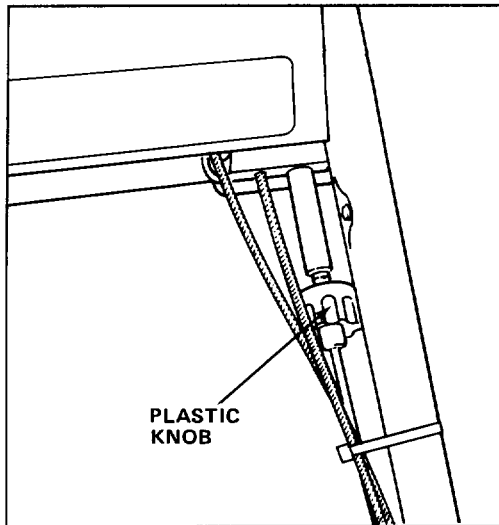

Figure 14
3. To adjust wheel drive cable, rotate knob under left front of control panel (Fig. 14). Rotate knob in positive direction (+) to increase distance between control bar and handle. Turn knob in negative direction (-) to decrease distance between control bar and handle.